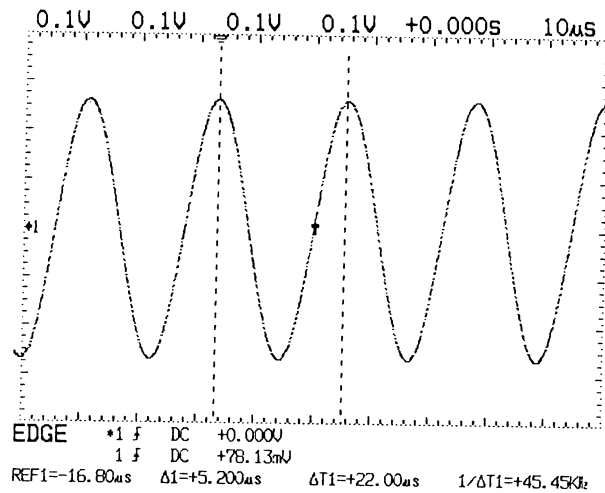

Fig. 6-45
(2) In case of time measurement cursors (T CURSORS) (See Fig. 6-45)
While the pulse parameters are being selected, four formulas after the respective pulse parameter's abbreviations are displayed as shown in Fig. 6-45 and Table 6-4 .